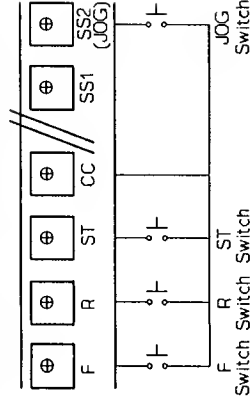
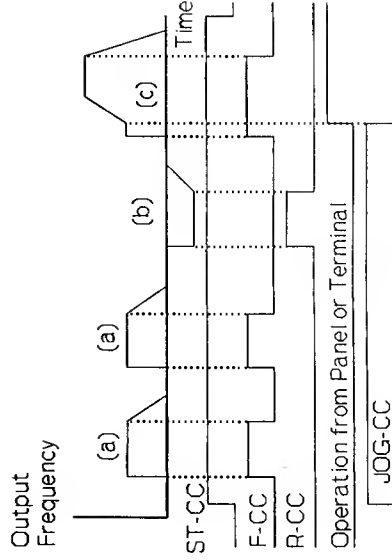

Figure 10.8 Connection of JOG Switch
Figure 10.9 Example of Operation with JOG Switch
1. Connect the "JOG" switch between the "JOG" and "CC" terminals on the control circuit terminal block as shown in Figure 10.8.
Figure 10.8 below shows an example of the use of a remote "JOG" switch connected to the "JOG" terminal to perform the [JOG] function by remote control. Figure 10.9 shows an example of a typical output to a motor, where:
An example of Forward Jog and Reverse Jog is shown in Figure 10.9.